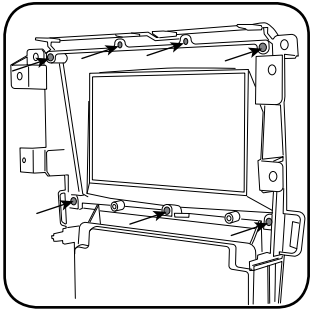

Fig. 2.1
1. Place the double-DIN trim panel onto the EDG1 bezel. Secure it with the seven supplied Phillips screws. Do not overtighten the screws. (Fig. 2.1)